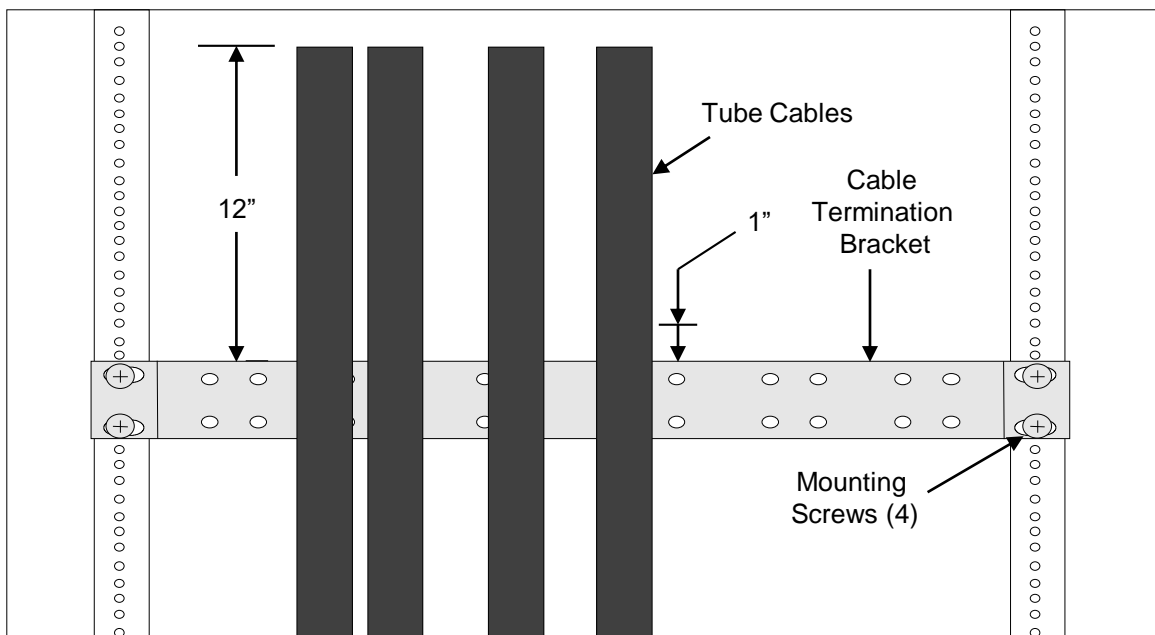

Figure 2
6.2 Mount the Cable Termination Bracket in rack using four (4) mounting screws provided. **See Fig. 2.**
6.4.1 Make first mark about 12" beyond Cable Termination Bracket; tube cable length / cut point. **Refer to Fig. 2.**
6.4.2 Make second mark about 1" beyond Cable Termination Bracket; tube cable jacket strip point. **Refer to Fig. 2.**